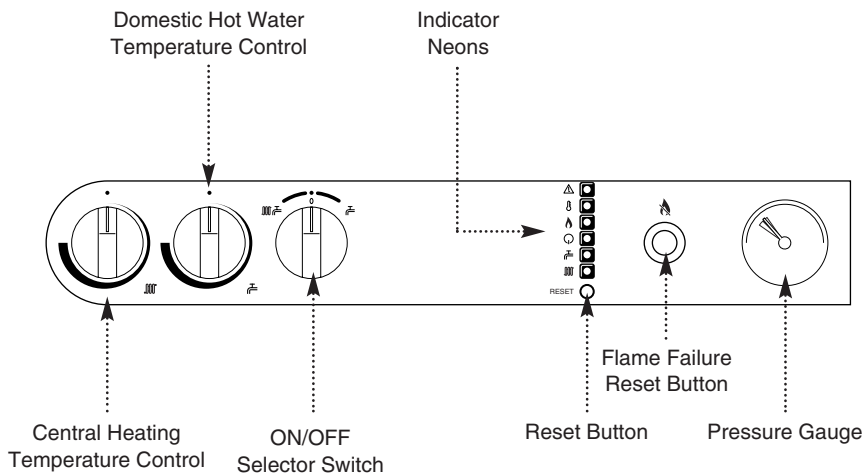

Fig. 2
8. The Burner ON indicator (☼) will light when the boiler is operating and the main burner has lit (Fig. 2).